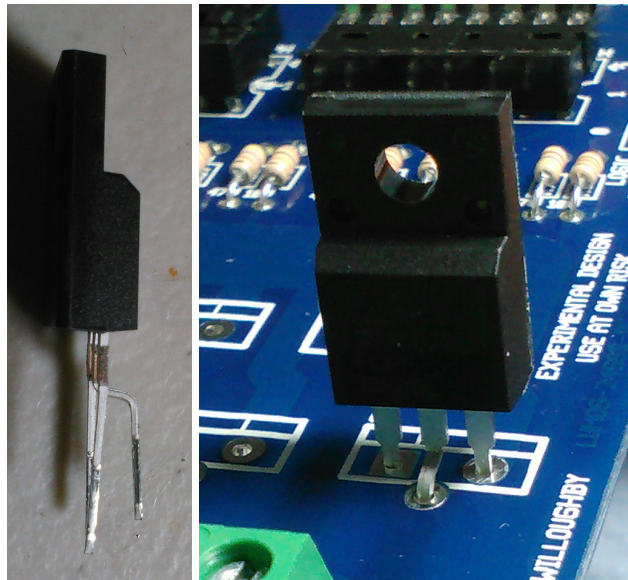

Figure 5.3: Bending the Pins of the MOSFETs
16. Repeat steps 12–15 to install (4) more resistor networks at R2–R5.
18. Install (6) 16-pin DIP sockets XU0–XU5 in positions marked U0–U5. Note that they need to fit easily over the soldered leads from R0–R5. If they don't, select a different style of socket or carefully trim down the resistor leads.
20. Install (3) 4-position jumper block headers at J6–J8. Solder.
21. Install (3) LM78L05 voltage regulators at U6–U8. **These parts will not function unless oriented correctly.** Note the flat side on the component case. This aligns with the flat side drawn on the circuit board. Apply heat protection while soldering in place, and/or limit soldering time to 4 seconds or less. Use ESD protection.
22. Install (3) fuse holders at F0–F2. Due to the wide PCB traces here, this may require extra soldering time, but be careful not to overheat the parts. The same will be true for steps 23–24.
23. Install (3) 10-position terminal blocks at J0–J2.
24. Install (3) 2-position terminal blocks at J3–J5.
25. Using ESD protection, lay out (12) MOSFETs on your workbench.
26. Prepare each MOSFET by bending the middle lead 90° up toward the front of the transistor body, then move your pliers down the lead another 0.1" and bend it 90° back again, parallel to the other pins again. It should now look like the photo in Figure 5.3 and should fit easily into the holes at Q0 on the PCB.